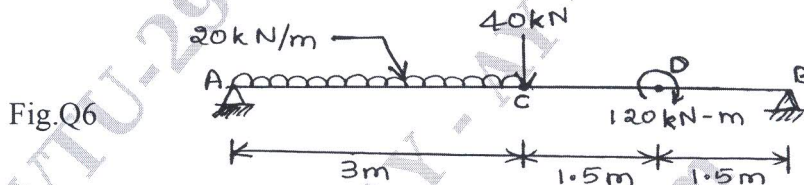

Fig.Q6
- 6 Draw the shear force and bending moment diagram for the beam as shown in the fig. Q6. Find the maximum bending moment where the shear force is zero. (20 Marks)